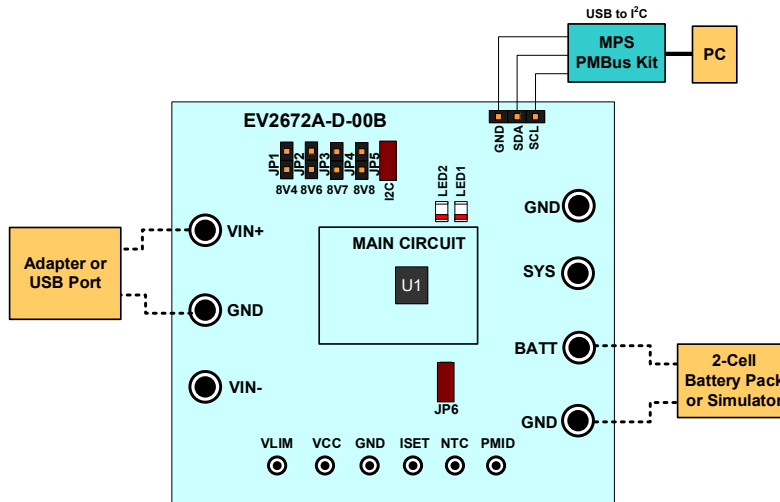

Figure 2: Test Set-Up for the MP2672A in Host-Control Mode
Figure 2 shows the set-up for host-control mode. For this mode, connect the CV pin to the VCC pin. The battery-full voltage and charge current are set by the I²C register.
4. Configure the test set-up for the MP2672A (see Figure 2).